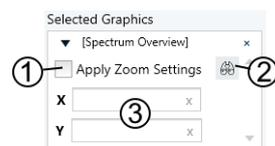

Figure 4-33: Zoom-settings box
- Enter the "X" and "Y" parameters (3 in Figure 4-33) with a syntax as in Table 4-5. R&S ELEKTRA automatically applies the correct units from the chart.
Note: For spherical or cylindrical charts, you can select a predefined camera direction from a list. To open this list, click the "Select View" button (2 in Figure 4-33). For the view that you select, R&S ELEKTRA automatically enters the correct "X" and "Y" parameters.